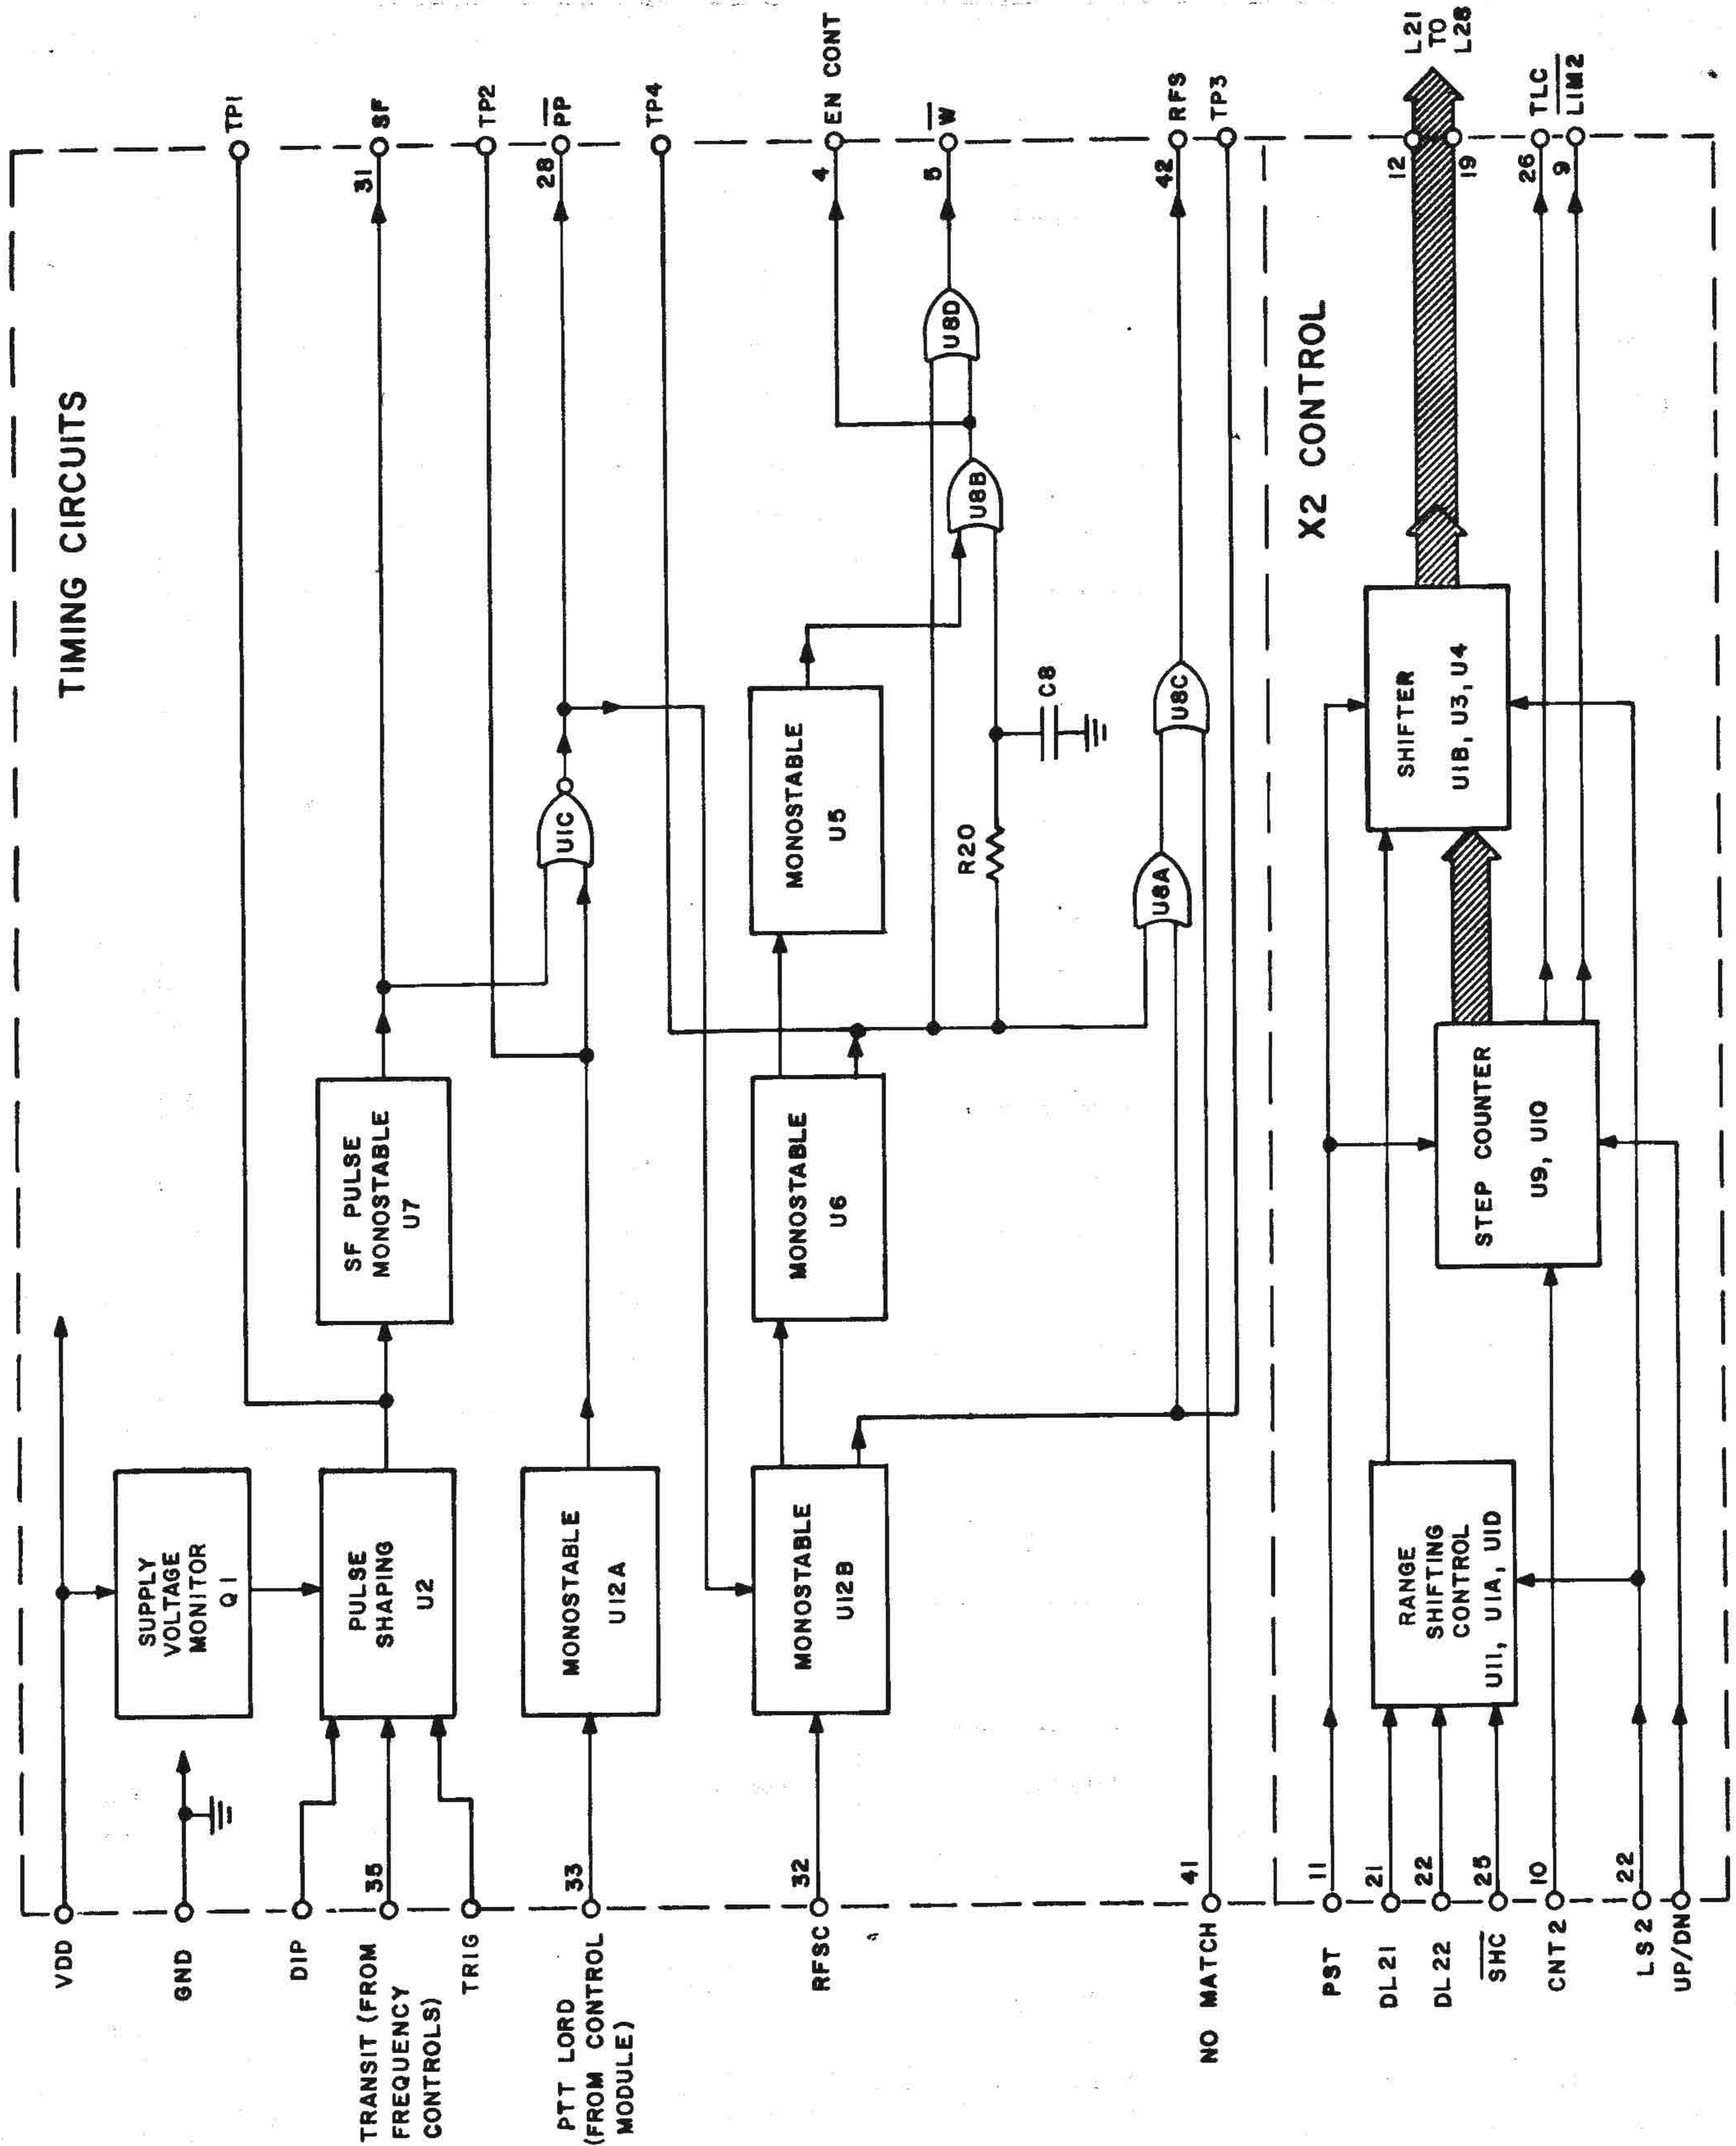

Fig. 2-35. Timer A4, block diagram
g. Timer Microelectronic Module A4 (fig. 2-35, 2-36, 2-37, 2-38). Refer to fig. 2-35 for the functional designations of the various circuits. Refer to para. c. for block diagram analysis.